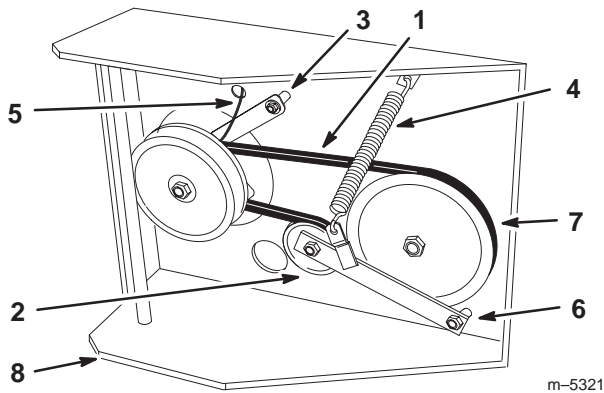

Figure 66
6. Disconnect clutch retainer from the engine deck (Fig. 66).
7. Unhook tension spring from side of frame (Fig. 66).
10. Torque pivot bolt to 35-40 ft-lb (47-54 N•m). Install tension spring between idler arm and frame bracket (Fig. 66).
11. Install clutch retainer to the engine deck (Fig. 66).